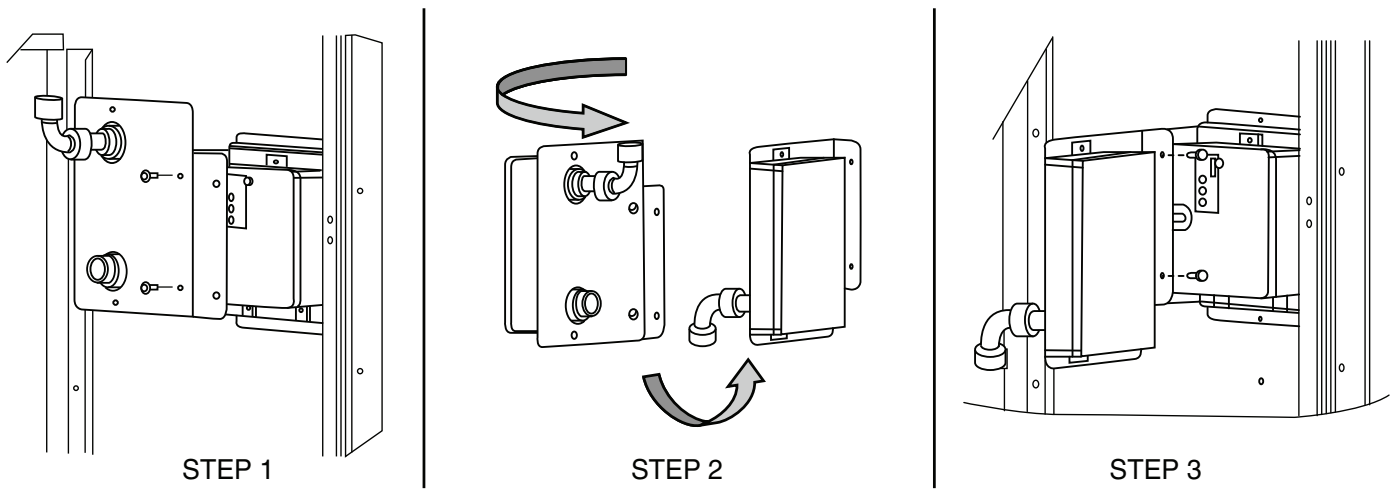

Fig. 51 — Completing Installation of Return Air Smoke Sensor
1. Unscrew the 2 screws holding the Return Air Smoke Detector assembly. See Fig. 51, Step 1. Save the screws.
2. Turn the assembly 90 degrees and then rotate end to end. Make sure that the elbow fitting is pointing down. See Fig. 51, Step 2.
3. Screw the sensor and detector plate into its operating position using screws from Step 1. See Fig. 51, Step 3.